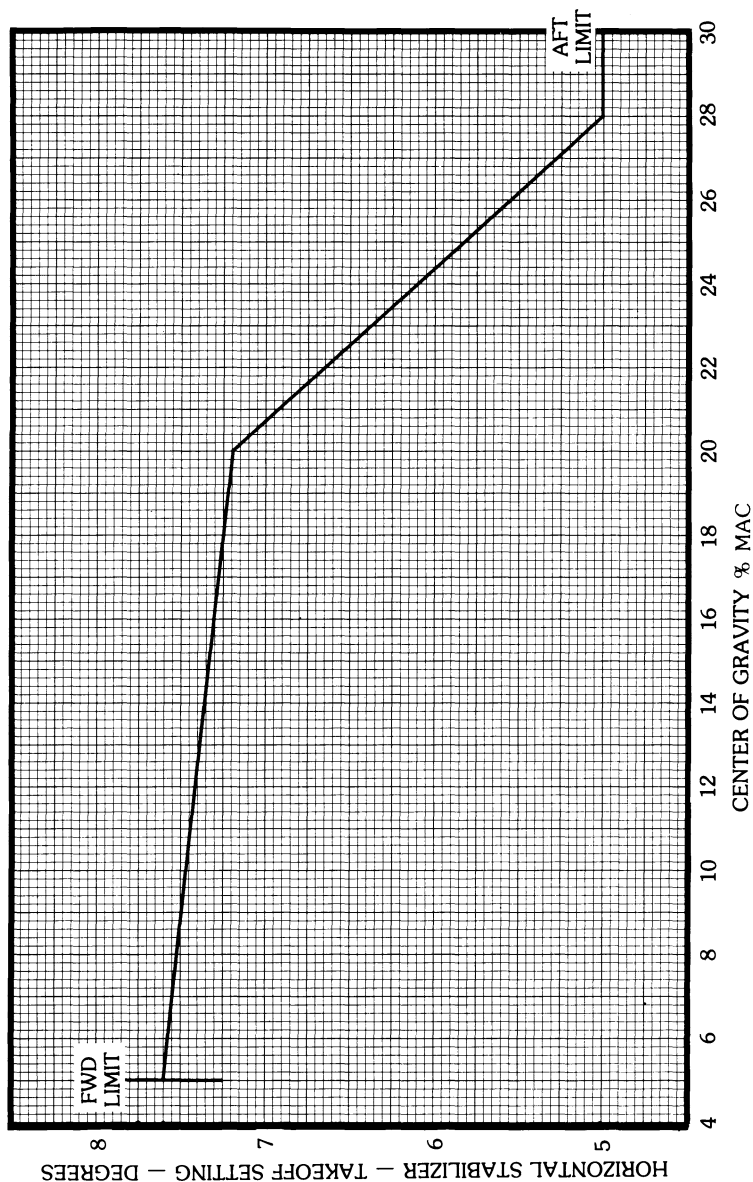

Figure 2-2
- o. Trim — Set all axes for takeoff, and check amber T.O. TRIM light not illuminated. *On aircraft 35-146 & subsequent, and aircraft 36-046 & subsequent, and prior aircraft incorporating AAK 83-8, determine Stabilizer Trim Setting by referring to Figure 2-2.*